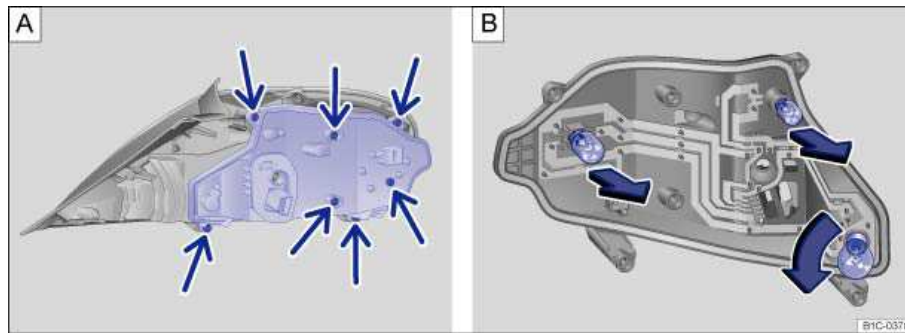

Fig. 179 Taillights: A: Removing the bulb holder. B: Removing the taillight bulbs.
7. Unscrew the fastening screws ⇒ **fig. 179 A** (arrows) with the Phillips screwdriver from the vehicle tool kit